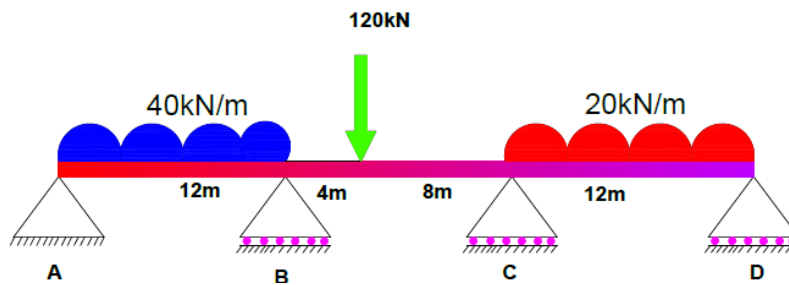

Fig 5
- (b) Analyze the bending moments & Support reactions for the two span continuous beam loaded as shown in fig. by Equilibrium method. Assume  $I$  is not uniform throughout. CO4-Ana (16)
13. (a) Analyze the continuous beam shown in fig 5 using matrix flexibility method. Assume  $EI$  value. CO4-Ana (16)